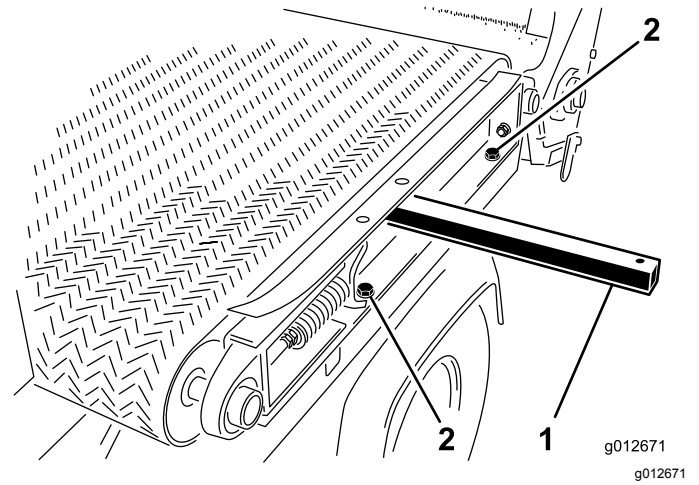

Figure 28
5. At the left side of machine, remove 2 capscrews and 2 washers that secure slider-frame rail to the left fender (Figure 28).
1. Insert a lift bar through the hole left slider-frame rail and raise lift bar to tip frame rail slightly; refer to Figure 28 in Disassembling the Slider Bed (page 24).